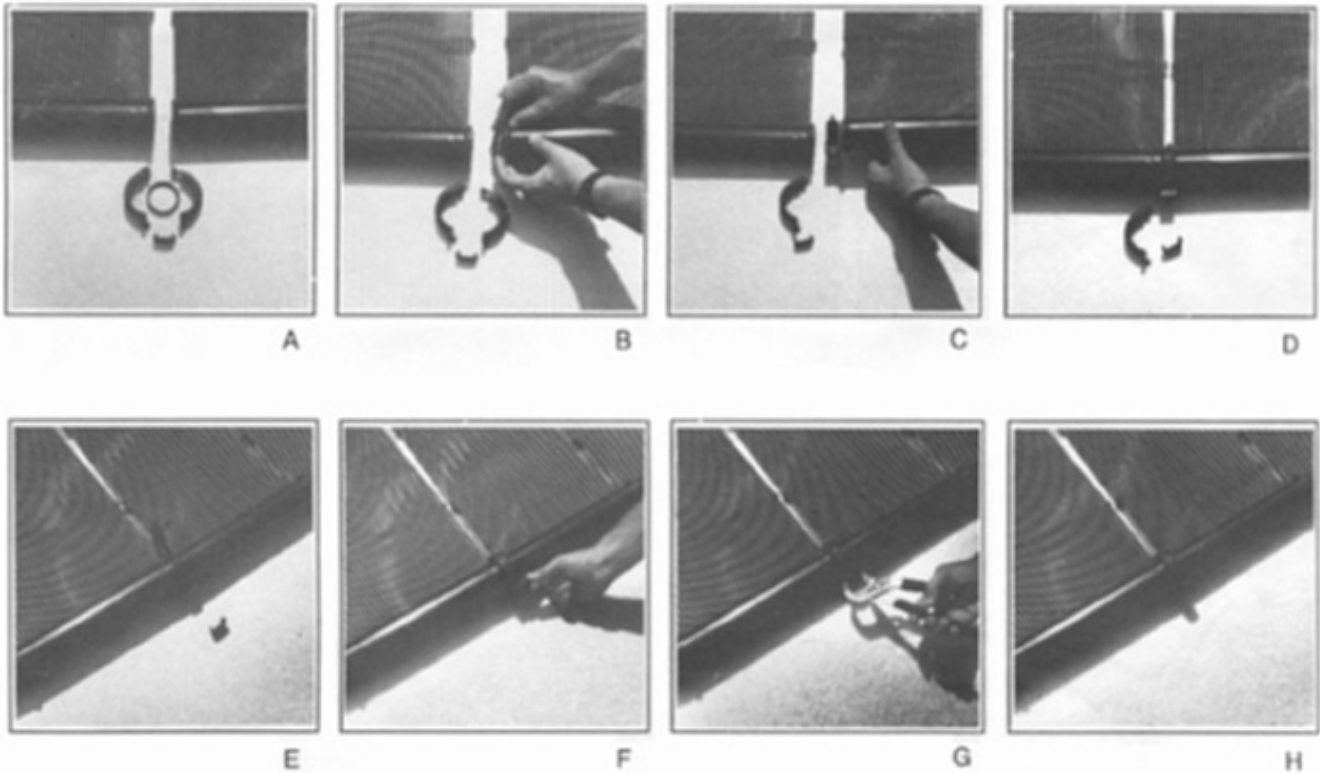
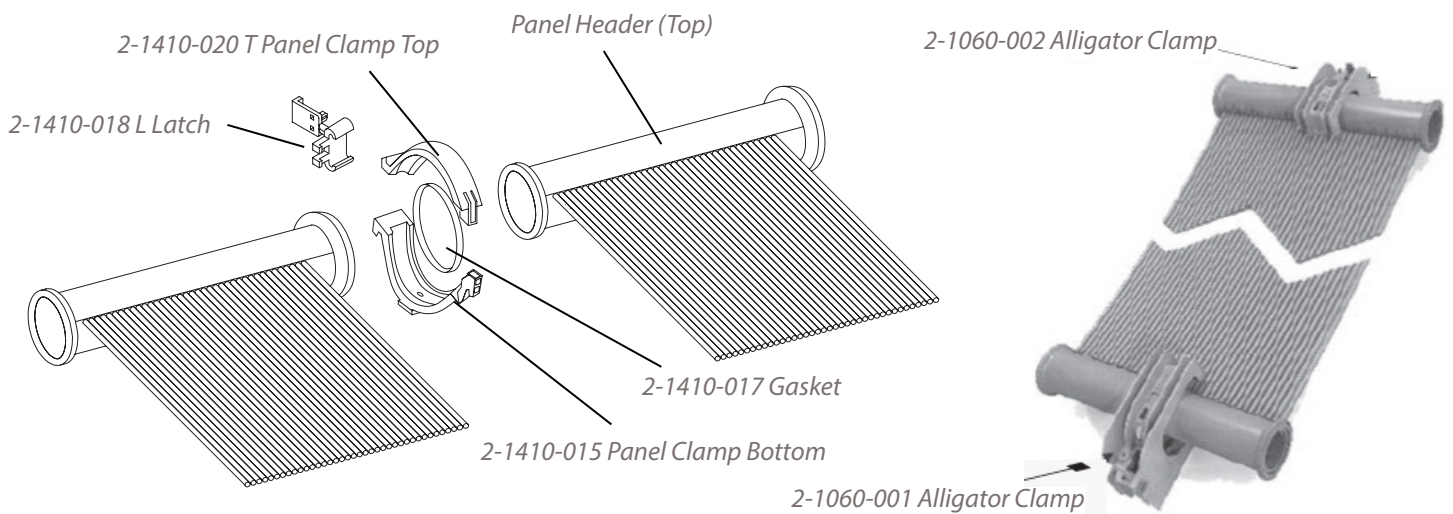

Fig. 7.1
Fig. 8.1
1. Place two collectors next to each other. The spacer bars that hold the individual riser tubes together should be facing down. Lay a plastic panel clamp (2-1410-004) top, bottom, gasket, and clip where the two headers meet. (Fig. 7.1-A).
3. Spray the gasket with silicon and insert it into the groove of one of the headers. Make sure that the gasket is fully seated into the header groove by pushing firmly with your thumb all the way around the gasket. (Fig. 7.1-B).
4. Place the bottom half (see Fig. 8.1) of the plastic panel clamp (2-1410-004) under the collector header with the hook portion of the panel clamp facing the inside of the collectors. (Fig. 7.1-C).
5. Seat both headers together by inserting the gasket into the opposite header groove and placing the ends of both headers into the open space in the panel clamp bottom. (Fig. 7.1-D).
6. Interlock the top half of the panel clamp with the hook on the bottom half. Swing top half over top of collector headers. Squeeze the top and bottom portions of the panel clamp together using channel lock pliers and lock both halves of the clamp together using the locking clip. (NOTE: Slide large end of locking clip over small end of plastic panel clamp assembly). (Fig. 7.1 - E & F).
7. Use channel lock pliers to tighten the clip grip by squeezing it with reasonable force until it seats flush or even slightly farther so it cannot slide out of its position. (Fig. 7.1-G).